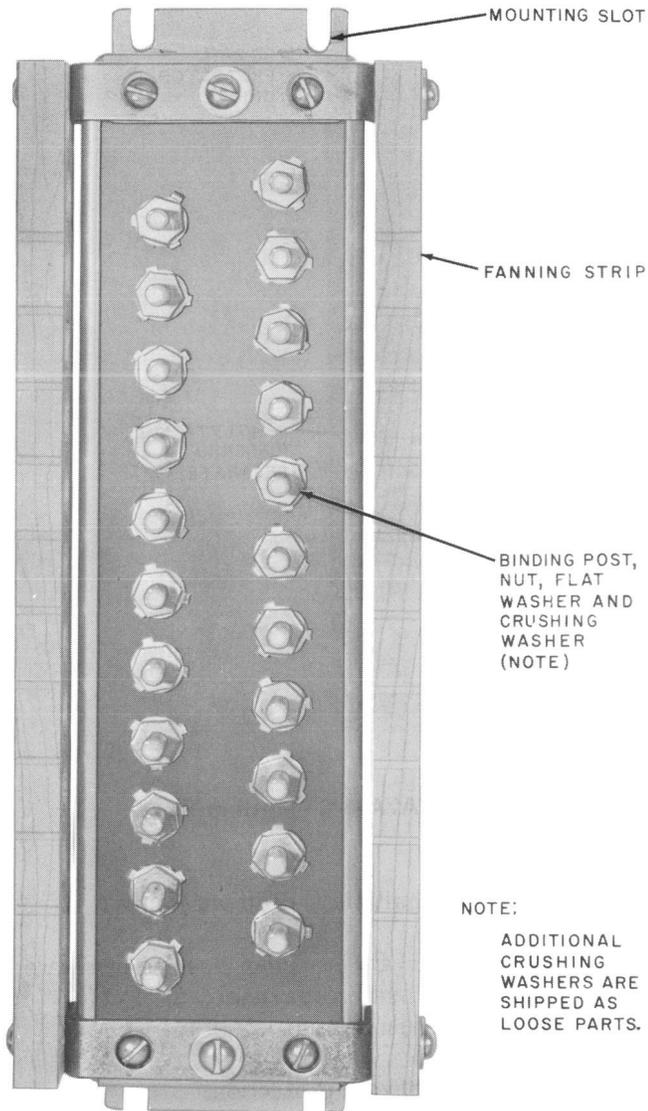

Fig. 5—59A1-11 Connecting Block
2.06 59A1 Series (MD) Connecting Blocks (Fig. 5):